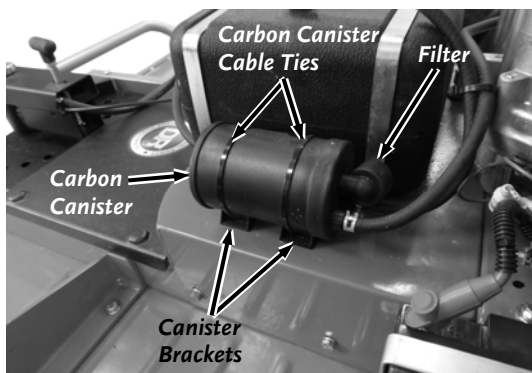

Figure 36
1. Pull the Filter from the Carbon Canister. (Figure 36).